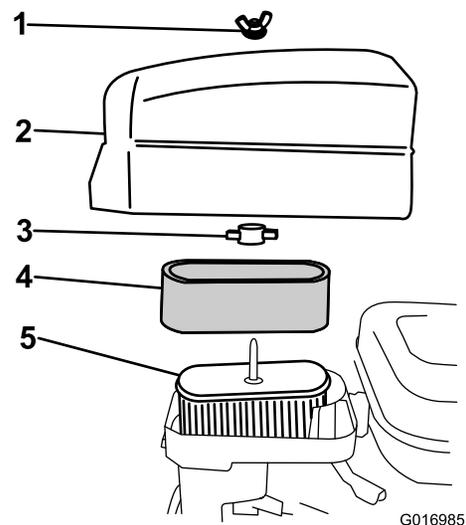

**Figure 31**
- Remove the wing nut that secures the air-cleaner cover, and remove the cover (Figure 31).